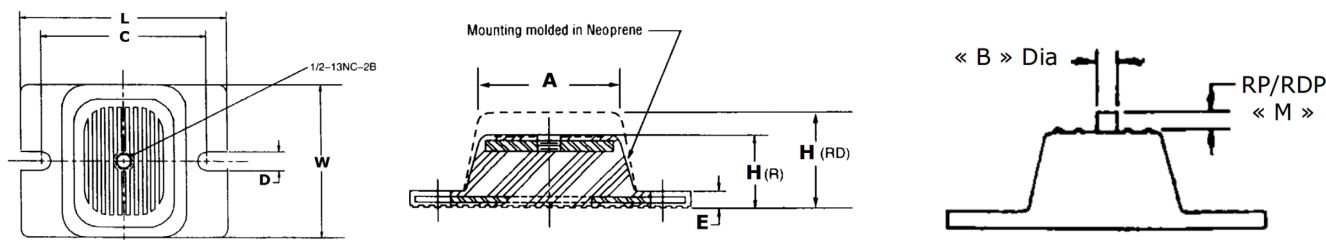

Figure 20. Ruber isolator dimension
2. Secure the isolators to the mounting surface using the mounting slots in the isolator base plate according to Figure 20. Do not fully tighten the isolator mounting bolts at this time.